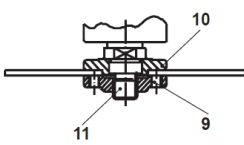

Fig. 13
6. Place the locking flange (9) on the spindle (11). Depending on the kind of wheel, the flange must be placed as follows:
- Thin wheels (< 4 mm) with flat centre: place the locking flange (9) with protruding side away from the wheel (Fig. 13).